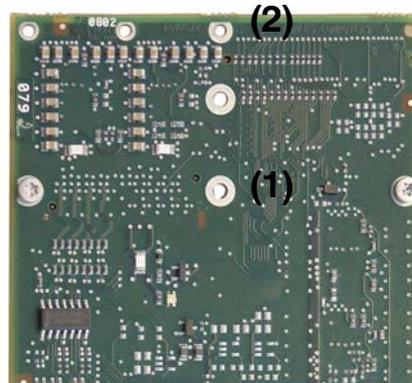
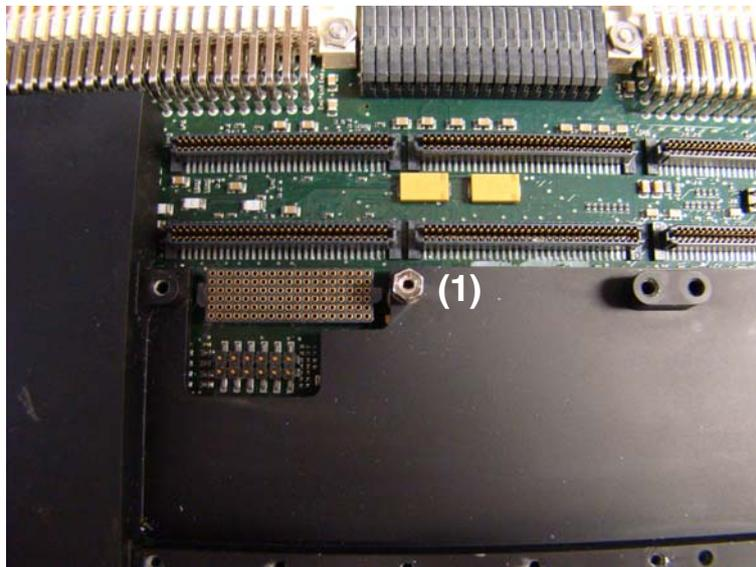

Figure 11: Additional Anchorage Point on a XMC-ETH2 (RC) Board
Figure 12: Additional Anchorage Point on a PENTXM2/RC Board
In order to satisfy the shock and vibration specifications, foresee an additional anchorage point that could either be the 3.3V keying pin hole (1), or the central hole of the line of optional holes behind the P4 connector (2). Figure 11 shows the possible locations (1) and (2) for an additional anchorage point on the XMC-ETH2 (RC) board. Figure 12 shows the location (1) for an additional anchorage point on an PENTXM2/RC board.